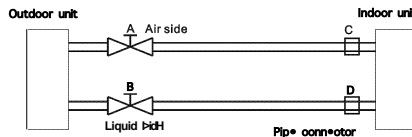

Fig 19
- If the connection pipe is no more than 5 meters, use refrigerant in outdoor unit to exhaust the air(50-100 g refrigerant is charged for emptying the pipe before the outdoor unit is delivered, refer to Fig 19).
- ⑤ Have the leak test at A, B, C, D joint and then press the core of Valve A to exhaust the air for 20 seconds and then screw down the service valve.
- ④ Open Check valve Band A completely with the inner-hexagon wrench, then tighten nuts of them.